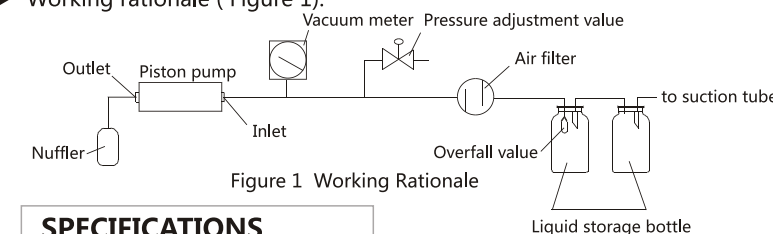

Figure 1 Working Rationale
- ▶ Working rationale (Figure 1).